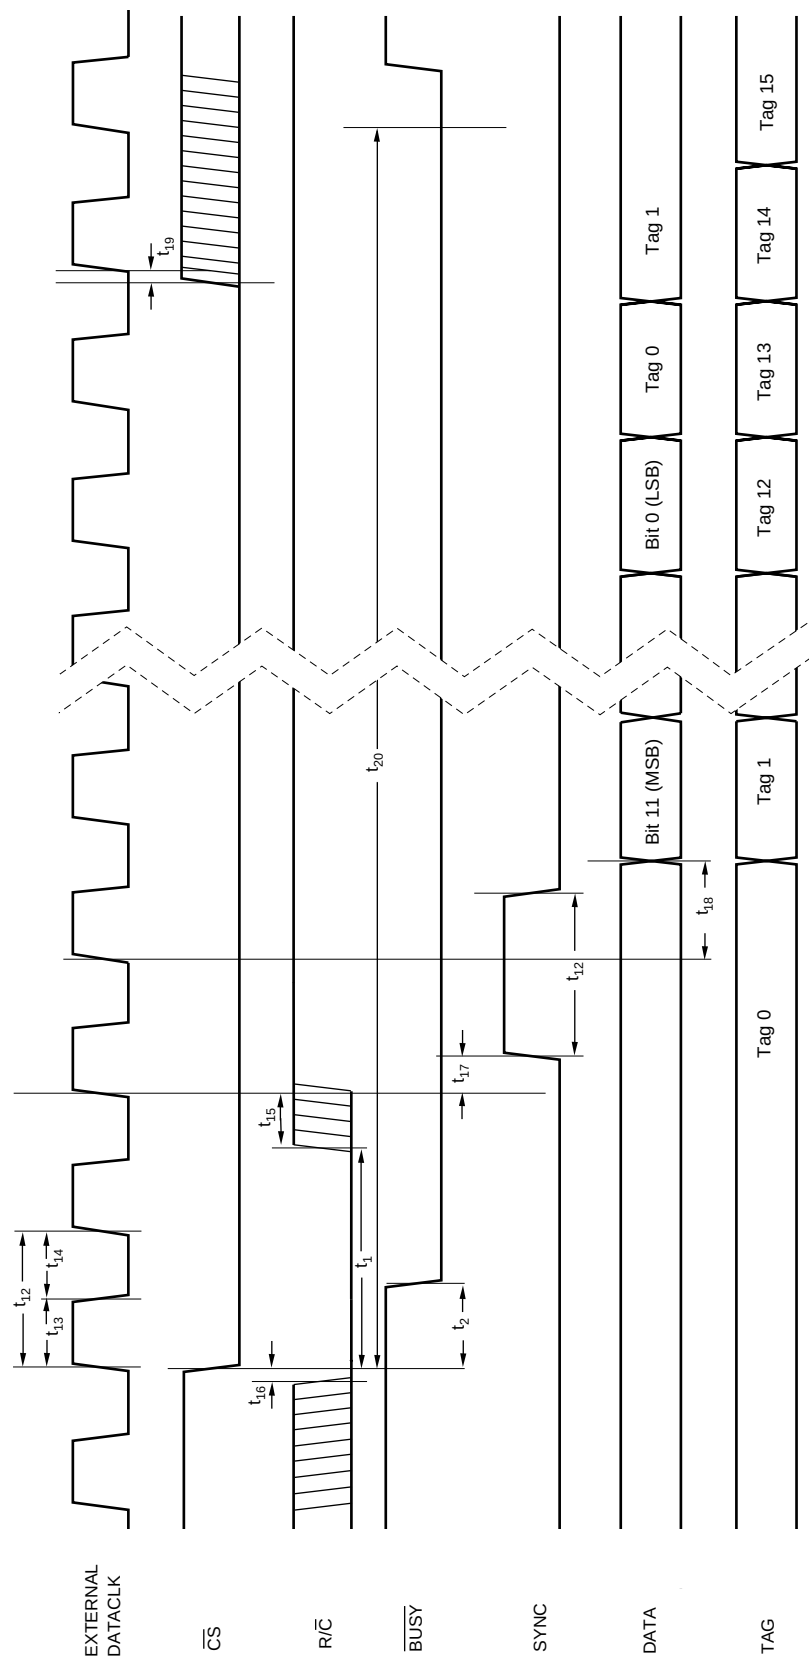

FIGURE 3b. Conversion and Read Timing with External Clock. (EXT/ $\overline{INT}$ Tied HIGH.) Read During Conversion (Previous Conversion Results).
NOTE: (1) See Figure 3b for constraints on previous data valid during conversion.